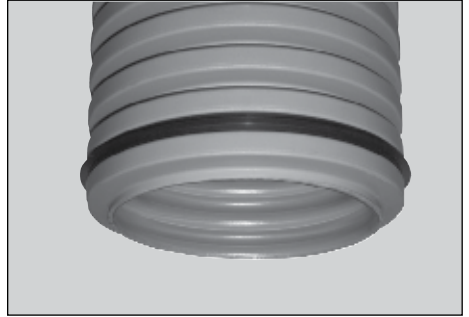
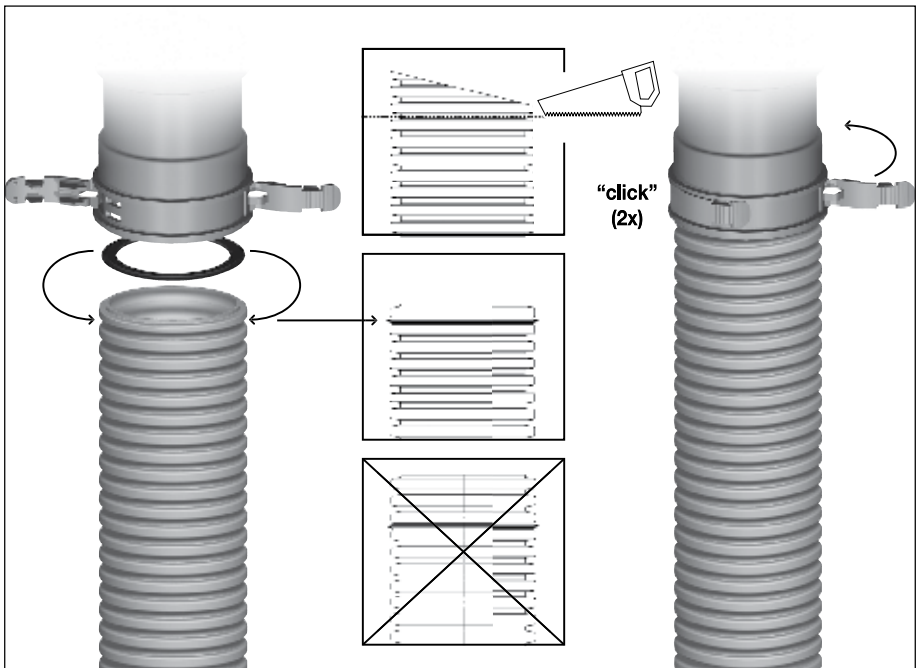
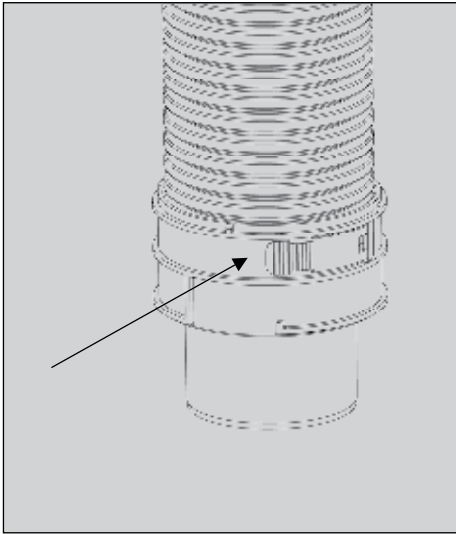
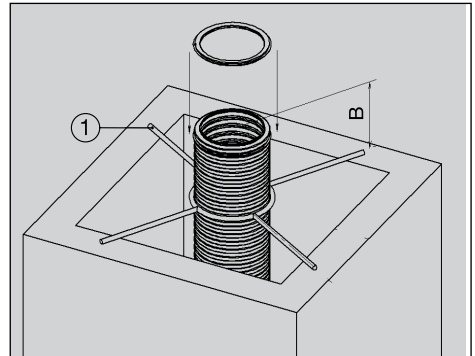

Figure 3, Mounting the Seal
Figure 4, Mounting the Seal
Figure 5, Fixing the Adapter
Figure 11, Required Liner Length
3. The length of the flexible liner can be determined in two ways: use a rope with a piece of lead to measure the shaft length, add 16" (40cm) extra length for each bend. The flexible liner can be shortened with a saw or scissors by cutting in a groove. The right length can also be determined after installing the liner in the shaft and cutting it at the top of the chimney, see **Figure 11**, dimension B.
5. Mount the seal into the lowest whole groove (**Figure 3** and **Figure 4**) and push the flexible liner into the adaptor until it stops.
6. Fix the adaptor on the liner with the latching tabs (**Figure 4** and **Figure 5**).
15. At the top of the shaft, shorten the flexible liner to the required length and make sure that dimension B in **Figure 11** is between 1½ - 2½" (between 38 and 64 mm).
16. Fit the support cross (see 1, **Figure 11**) over the liner and let it rest on the wall of the shaft. Mount the seal (see **Figure 3**) in the last whole groove of the liner. Push the flex-rigid adaptor on the liner and close the latching tabs. Allow the assembly to rest on the support cross.